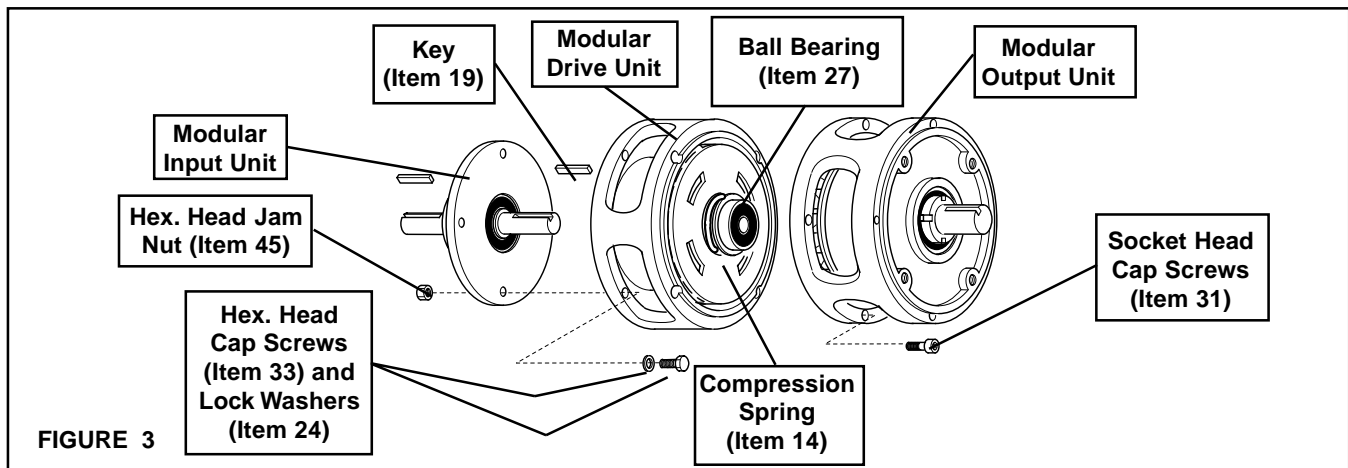

FIGURE 3
- Place the Modular Drive Unit (MDU) on a table with the Ball Bearing (Item 27) facing up and properly seated against the Retaining Ring on Models 625, 875, and 1375 or against the Hub on Model 1125 (See Figure 3).
- Set the Modular Output Unit (MOU) onto the MDU, making sure the Ball Bearing (Item 27) is fully seated into the bore of the MOU (See Figure 3).
- Rotate the MOU until the four clearance holes are aligned with the four MDU tapped holes (See Figure 3).
- Press the MOU down against the Compression Spring (Item 14) until the faces of both units are flush (See Figure 3).
- Using the four Socket Head Cap Screws (Item 31), secure the MOU to the MDU (See Figure 3).
- Alternately and evenly tighten the four Socket Head Cap Screws (Item 31) to 50 Ft. Lbs. [69 N•m] torque (See Figure 3).
- Place the Key (Item 19) into the shaft of the Modular Input Unit (MIU); then, slide the MIU shaft into the MDU (See Figure 3).
- Using the four Hex. Head Jam Nuts (Item 45), Hex. Head Cap Screws (Item 33), and Lock Washers (Item 24), secure the MIU to the MDU (See Figure 3).
- Alternately and evenly tighten the four Hex. Head Jam Nuts (Item 45) to 20 Ft. Lbs. [27 N•m] torque (See Figure 3).